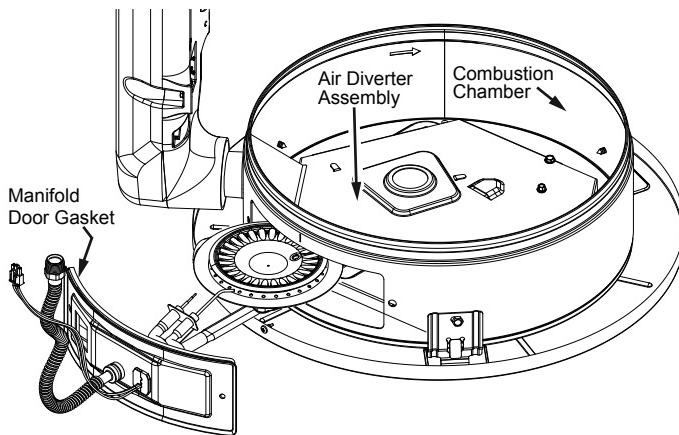

FIGURE 28.
6. Carefully remove the manifold assembly from the burner compartment. NOTE: Be sure not to damage internal parts (Figure 28).
2. Use a vacuum cleaner/shop vac to remove all loose debris in the combustion chamber (Figure 28). Use compressed air to clear any dust or debris that may have accumulated on the air diverter assembly.